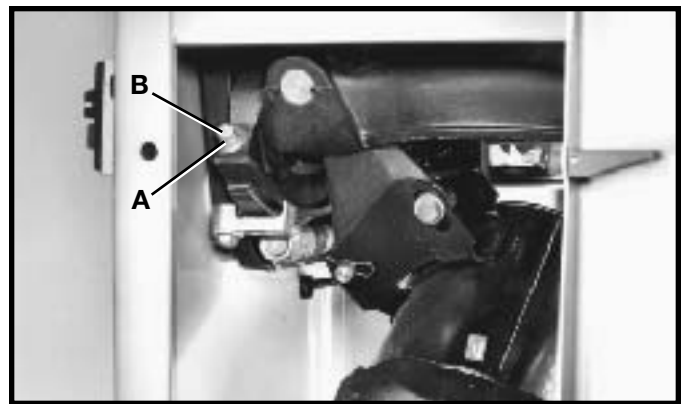

Fig. 55
2. Using a square, check to see if the blade is 90 degrees to the table. If an adjustment is necessary, turn the blade tilting handwheel counterclockwise. Loosen locknut (A) Fig. 55, and tighten or loosen adjusting screw (B) until head of screw (B) contacts casting on front trunnion when the blade is at 90 degrees to the table. Then tighten locknut (A).
4. Turn the blade tilting handwheel counterclockwise as far as it will go. Using a square, check to see if the blade is at 45 degrees to the table. If an adjustment is necessary, turn the blade tilting handwheel clockwise until the adjusting screw (D) Fig. 55, and locknut (C) are in view, in the opening in the front of the saw cabinet, as shown. Loosen locknut (C) and tighten or loosen adjusting screw (D) until head of screw (D) contacts casting on front trunnion when the blade is at 45 degrees to the table.